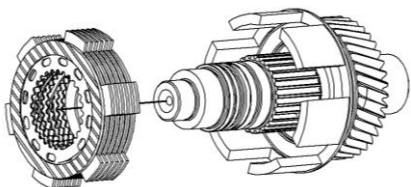

Figure 5 – Output Shaft component's Removal
9. Tap the piston cup (3) on a wood surface to remove the piston (5).
10. Remove the friction discs (6), wave springs (7) and spacer discs (8) by pointing the shaft end downward. *See figure 5.*